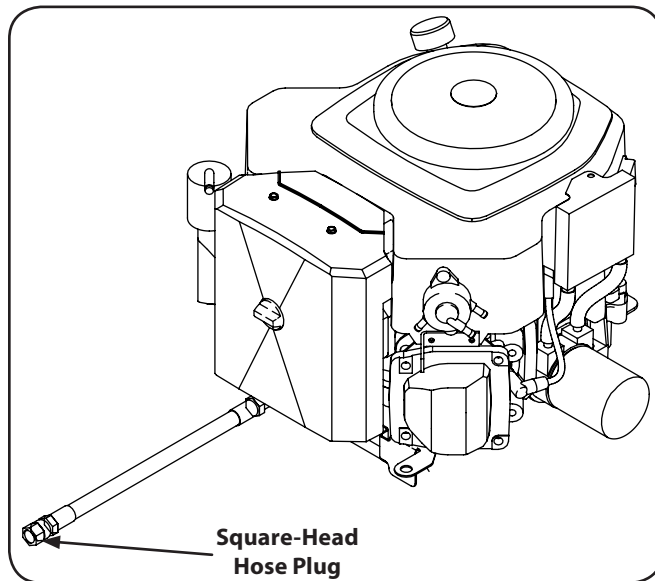

Figure 6-1
4. While holding the free end of the oil drain hose over the oil collection container, unscrew the square-head hose plug from the end of the hose. See Figure 6-1. Drain the engine oil into the collection container.